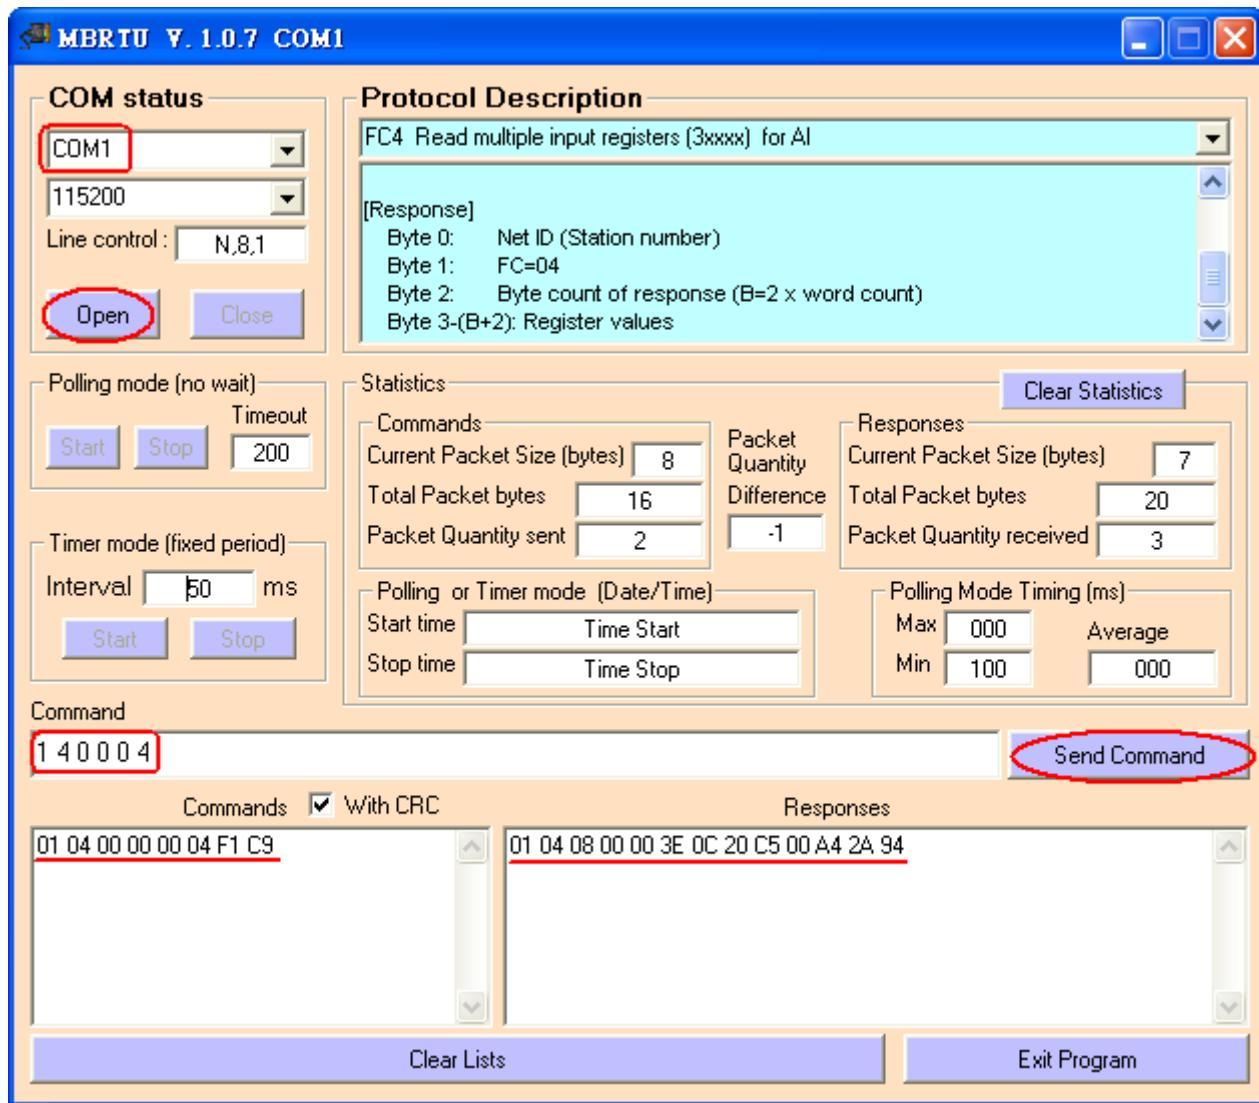

Figure 5-2 Receive HART Command 1 data
- (3) Run “MB/RTU” tool. Set the com port settings the same with HART-710 (Baud Rate / Data Bits / Stop Bits / Parity) and then click “Open” button to connect to HRT-710 like Figure 5-2.
- (4) Input “1 4 0 0 0 4” in “Command” field and click “Send Command” button to send the modbus command. The HART command 1 data will be received in “Responses” field => “01 04 08 00 00 3E 0C 20 C5 00 A4 2A 94” like Figure 5-2.